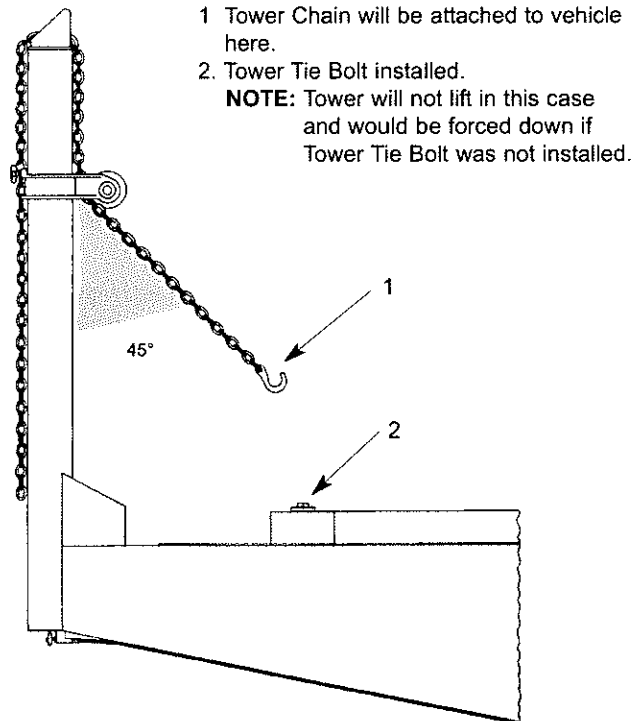

Figure 14
1. Tower does not lift up firmly against underside of mainframe when making a pull, for example: when pulling upward at 45 degree angle or less. (See Figure 14.)